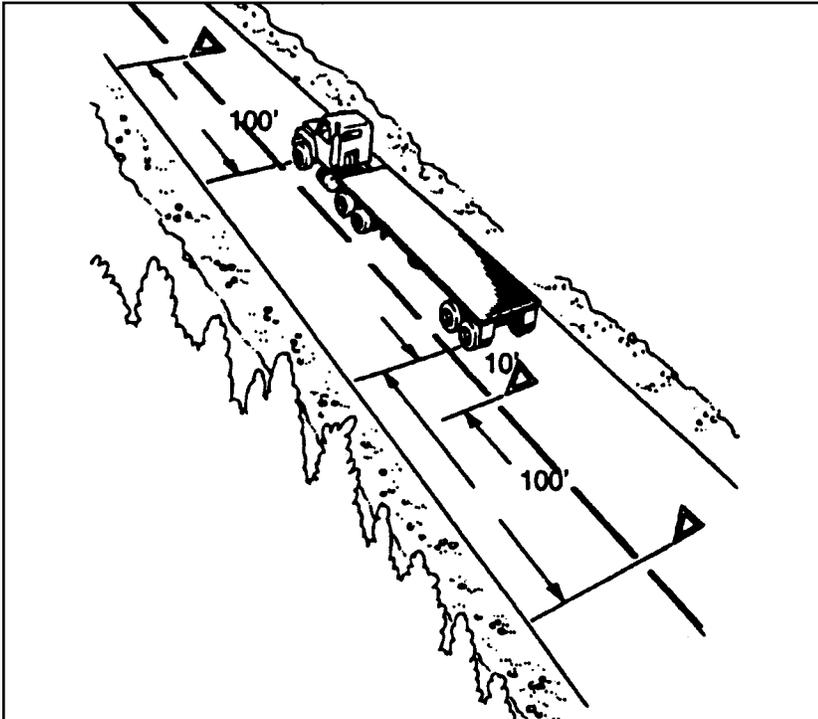

Figure 2-8
- If you stop on, a two-lane road carrying traffic in both directions or on an undivided highway, place warning devices within ten feet of the front or rear corners to mark the location of the vehicle and 100 feet behind and ahead of the vehicle, on the shoulder or in the lane you stopped in. (See Figure 2-8.)